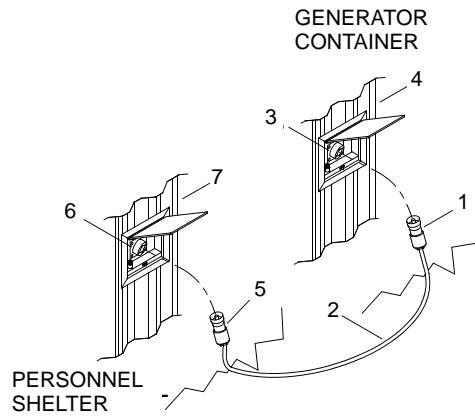

Figure 24. Shore Tie Connection
3. Disconnect male end (figure 24, item 1) of shore tie power cable (figure 24, item 2) from female shore tie connector (figure 24, item 3) on generator container (figure 24, item 4).
4. Disconnect female end (figure 24, item 5) of shore tie power cable (figure 24, item 2) from personnel shelter male shore tie connector (figure 24, item 6).
5. Stow shore tie power cable (figure 24, item 2) inside personnel shelter (figure 24, item 7).